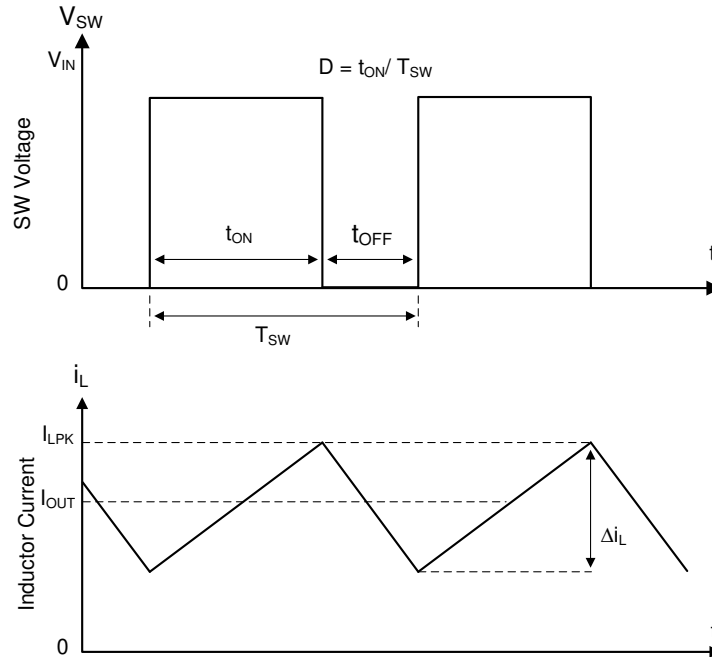

Figure 8-1. SW Node and Inductor Current Waveforms in Continuous Conduction Mode (CCM)
The following operating description of the LMR51420 refers to Section 8.2 and to the waveforms in Figure 8-1. The LMR51420 is a step-down synchronous buck converter with integrated high-side (HS) and low-side (LS) switches (synchronous rectifier). The LMR51420 supplies a regulated output voltage by turning on the high-side and low-side NMOS switches with controlled duty cycle. During the high-side switch on time, the SW pin voltage swings up to approximately V_{IN} , and the inductor current, i_L , increases with a linear slope of $(V_{IN} - V_{OUT}) / L$. When the high-side switch is turned off by the control logic, the low-side switch is turned on after an anti-shoot-through dead time. Inductor current discharges through the low-side switch with a slope of $-V_{OUT} / L$. The control parameter of a buck converter is defined as: